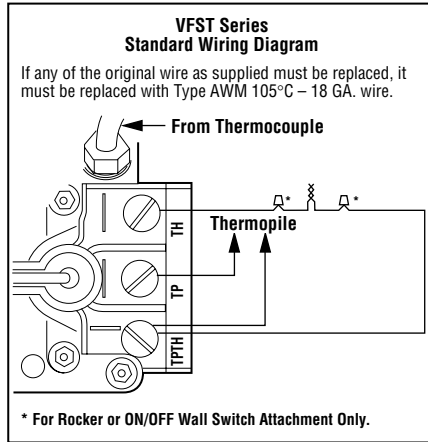
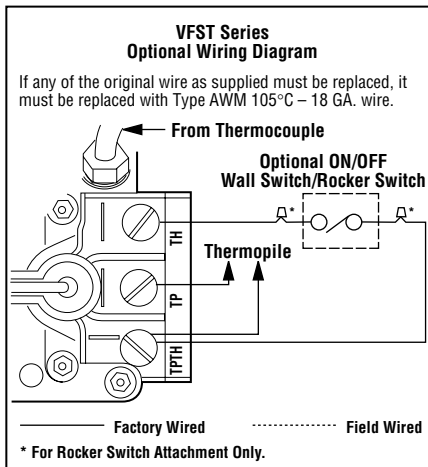

Figure 12
Figure 13
Step 6. Installing the Optional Remote Wall Switch – The standard millivolt system comes from the factory wired as shown in *Figure 12*. Select a convenient location for the remote wall switch and connect the wiring to the appliance (*Figure 13*).
An optional wall switch kit can be installed along with all vent-free appliances. The kit consists of a standard UL wall switch with cover plate. This kit provides for remote (wall) operation of the appliance. Replace the wall switch and cover plate of this kit with the components of the RCK and you can have true remote control of your vent-free appliance, turning it on and off from your favorite easy chair. The wall switch kit should be installed along with the appliance. Refer to Figure 13 and Step 6 for detailed installation instructions.